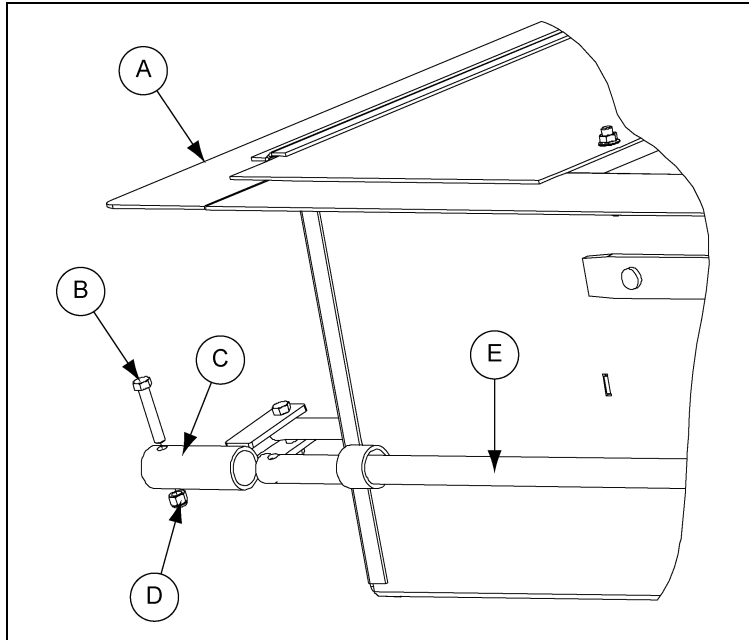

Figure 4X
1. Install the longest section of the 1/2" clutch control rod (E) to the clutch control arm (C) on the centerwell (A). Make sure that it is contained in the square clutch control pipe guides in the intermediate wells. Bolt the rod to the arm with a 5/16" x 1-3/4" hex bolt (B) and nylock nut (D). (See Figure 4X.)